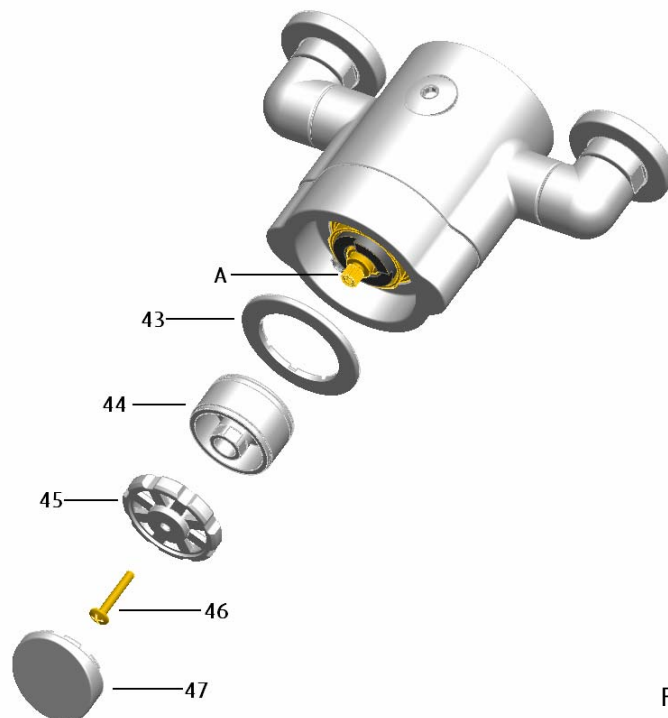

Fig. 4
5.4 See Fig. 4 below, remove the temperature control handle, handle ring and shroud (45, 44 & 43) by removing the cap (47), remove the screw (46) and pulling the handle, handle ring and shroud (45, 44 & 43) off the spindle (A).